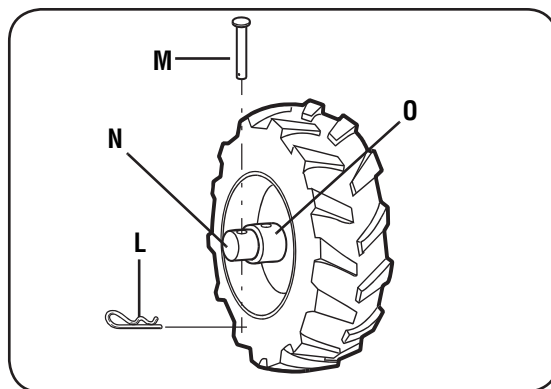

Figure 3-3: FREEWHEEL position.
5. **FOR FREEWHEEL MODE** (Figure 3-3): Slide the wheel inward and insert the clevis pin (A, Figure 3-3) secure with cotter pin (C) only through the hole in the wheel shaft (B). Repeat for the other wheel and then remove the support from beneath the transmission.